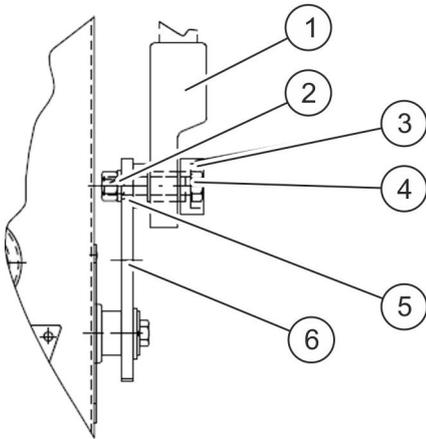

Fig. 26: Removing the connecting rods
6. Undo the screw (Fig. 26/4) and nut (Fig. 26/2) on the lower section of the shift linkage.
7. Remove the lower section of the shift linkage (Fig. 26/1).